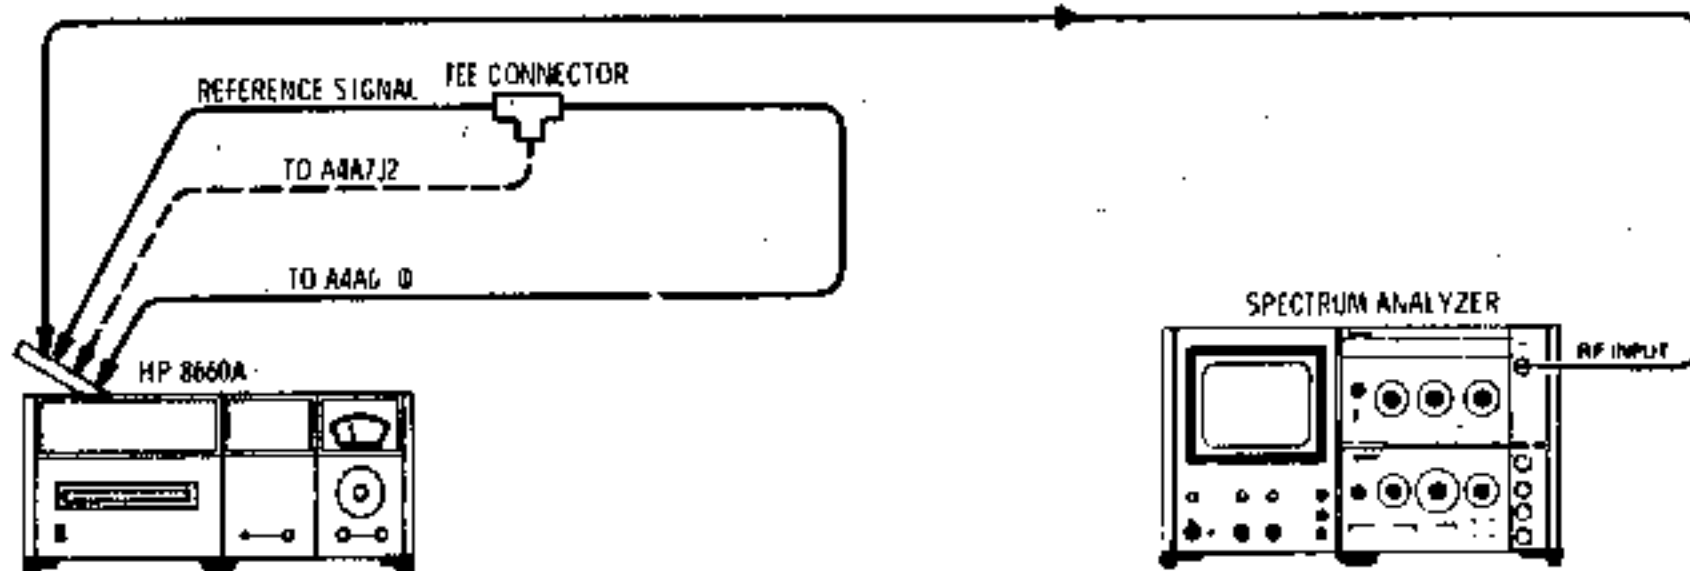

Figure 5-13. 10 MHz Trap Adjustment Test Setup
5. 10 MHz Trap Adjustment (See Figure 5-13.)
6. Output Frequency and Amplitude Check. (See Figure 5-13.)